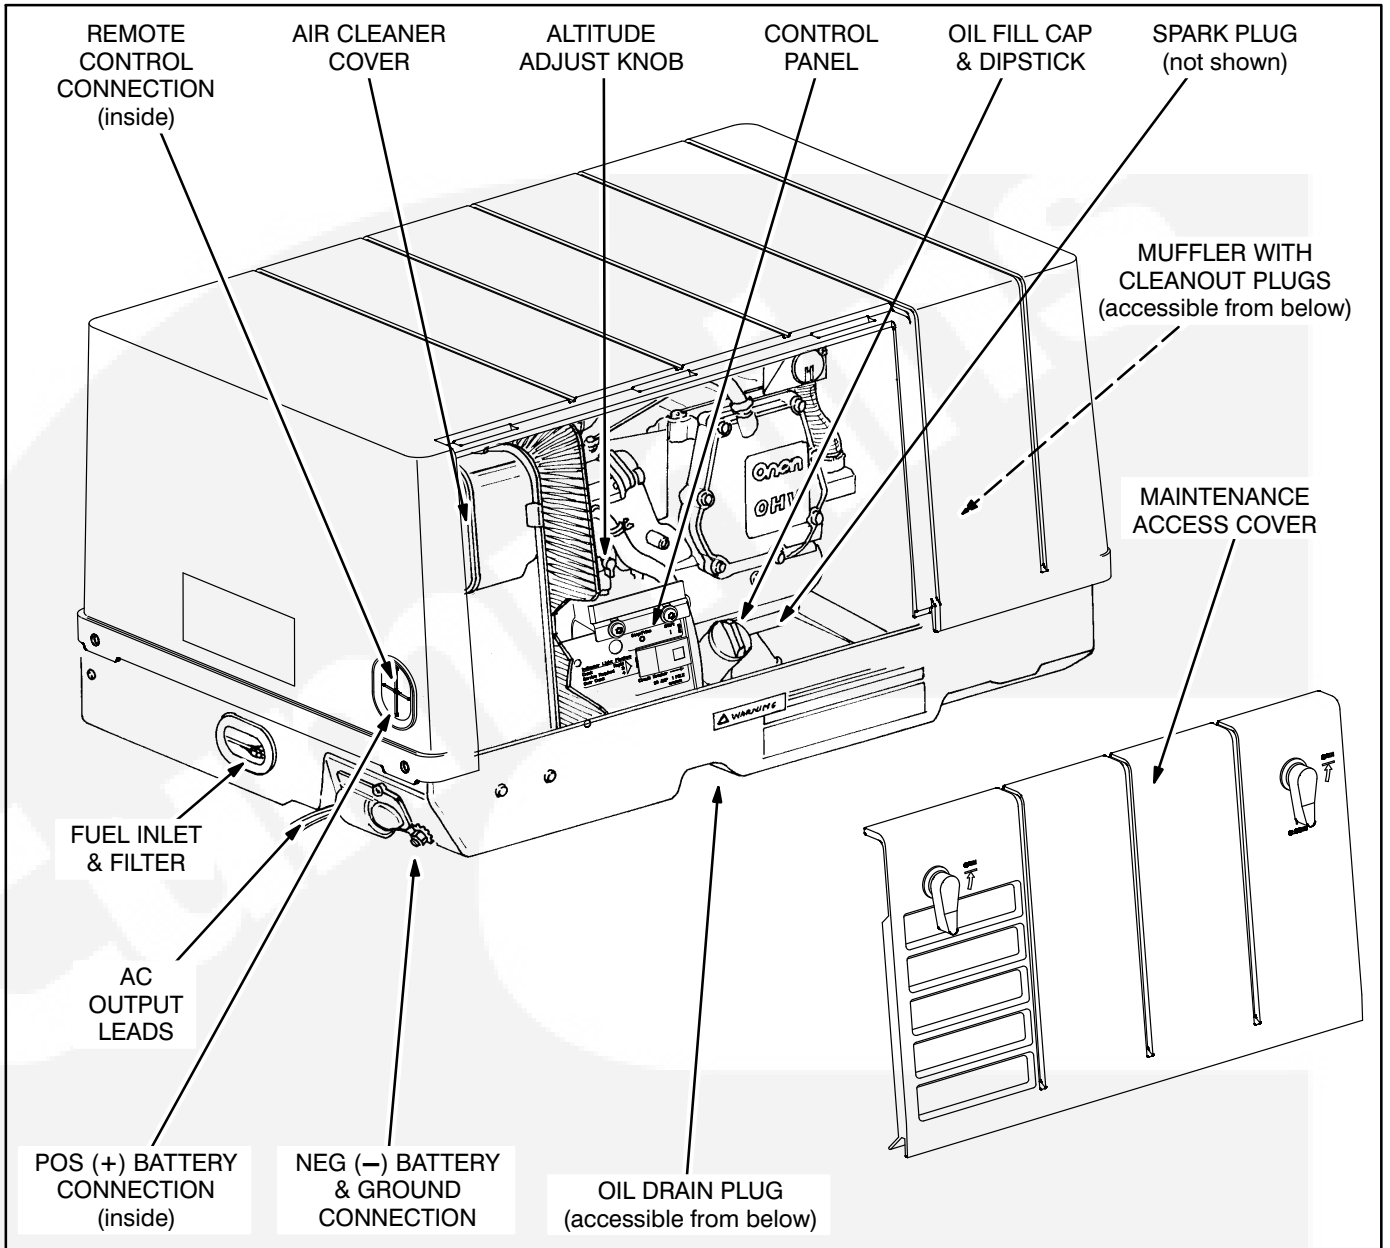

FIGURE 1. TYPICAL GENSET
Figure 1 illustrates a typical genset. See OUTLINE DRAWING (Page 34) for installation details: mounting bolt hole locations, connection points (fuel, battery, remote control, AC output and exhaust), sizes and types of fittings, inlet and outlet air openings, weight and overall dimensions, etc. See Pages 35, 36 and 37 for details of the underfloor mounting kits available. See your Onan dealer for large-scale copies of the drawings and for a full-size floor template for floor opening cutouts.
4. Provide ready access for fuel and battery connections and all periodic maintenance procedures (Figure 1). When mounting the genset on a floor, use Compartment Template 539-1546 to locate the cutout for the oil drain. Do not route the exhaust tailpipe underneath the oil drain.